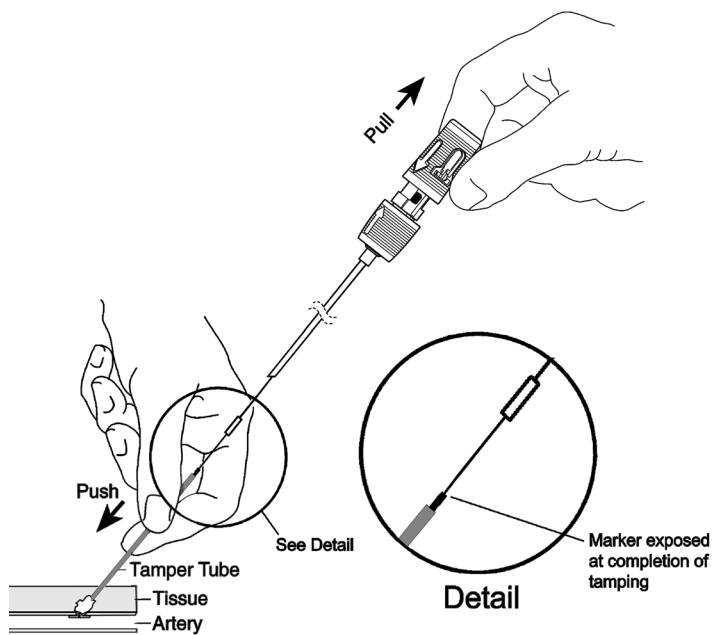

Fig. 16
**NOTE:** The black compaction marker is usually exposed. If not, repeat step C-4. Sufficient resistance will indicate completion of sealing and the black compaction marker will usually be exposed (Figure 16).